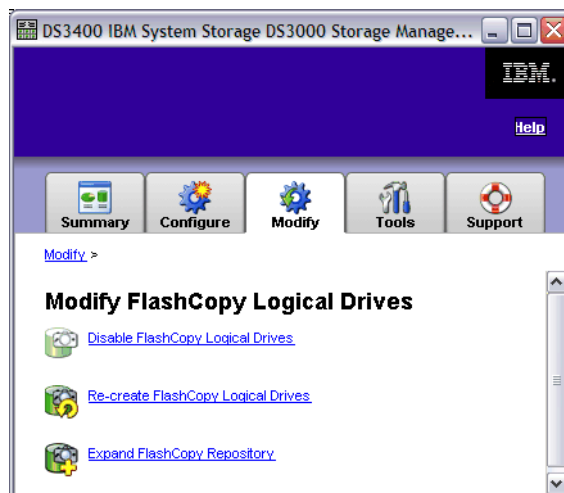
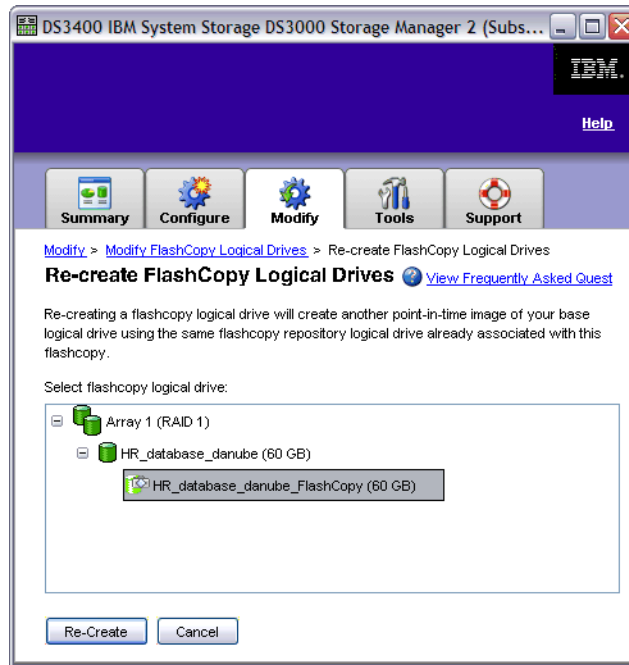
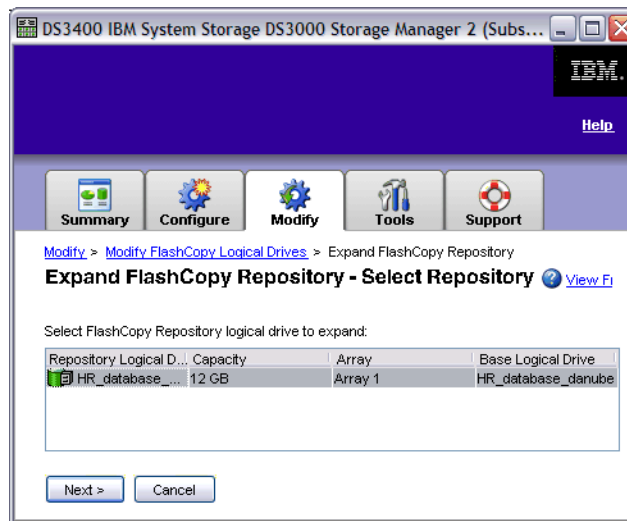

Figure 11-35 Modify FlashCopy Logical Drives
Figure 11-39 Modify - Re-create FlashCopy Logical Drives
Figure 11-42 Modify - Expand FlashCopy Repository
In 9.4, “Advanced functions - FlashCopy” on page 183, we describe how to create FlashCopy drives. In the Modify FlashCopy Logical Drives link, you can manage and modify FlashCopy drives with the following options, as shown in Figure 11-35:
1. Click **Re-create FlashCopy Logical Drives** (Figure 11-35 on page 243) to display the associated view (Figure 11-39).
1. Click **Expand FlashCopy Repository** (Figure 11-35 on page 243) to display the associated view (Figure 11-42).